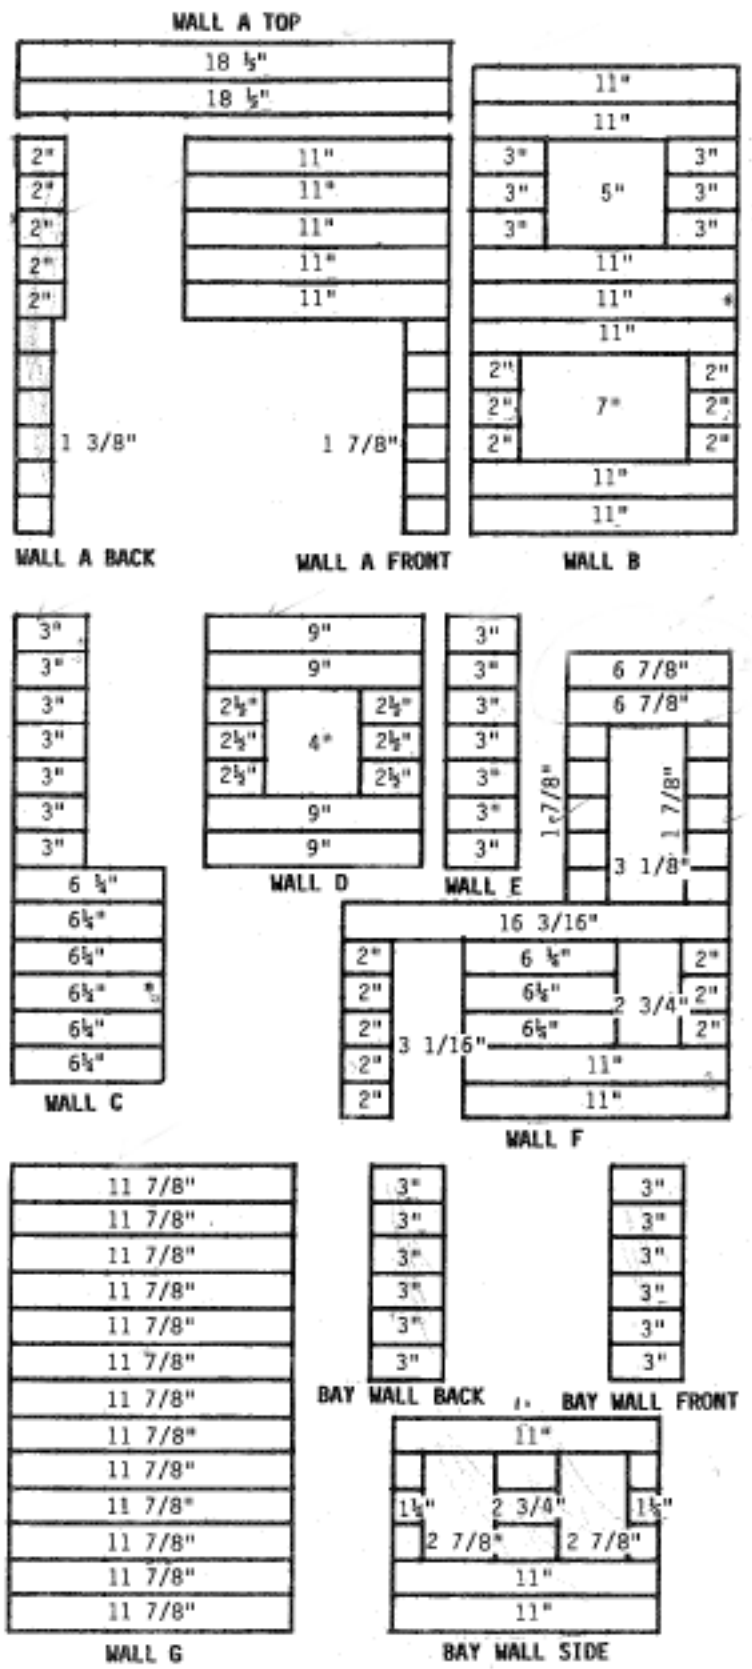

Figure 1
2. Pre-assemble the siding without glue. Lay the pieces flat side down, as shown in Figure 1. The tongue is on the top edge of each board.